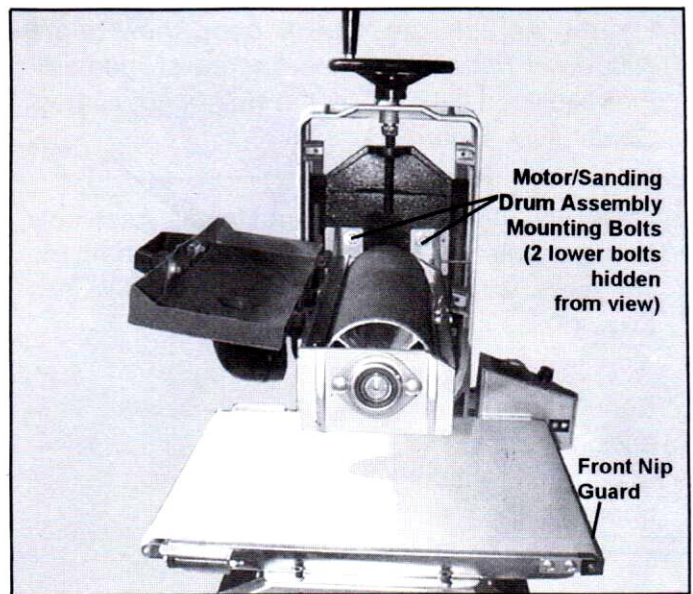

Figure 8
11. **STOP THE MACHINE** and recheck the motor/drum mounting bolts and feed rollers for tightness **after** about 50 hours of operation. (See Figure 8.)
3. **Loose Motor/Sanding Drum Assembly Mounting Bolts.** (See Figure 8.) Check the tightness of the four (4) bolts, 2 upper and 2 lower, and tighten as needed.